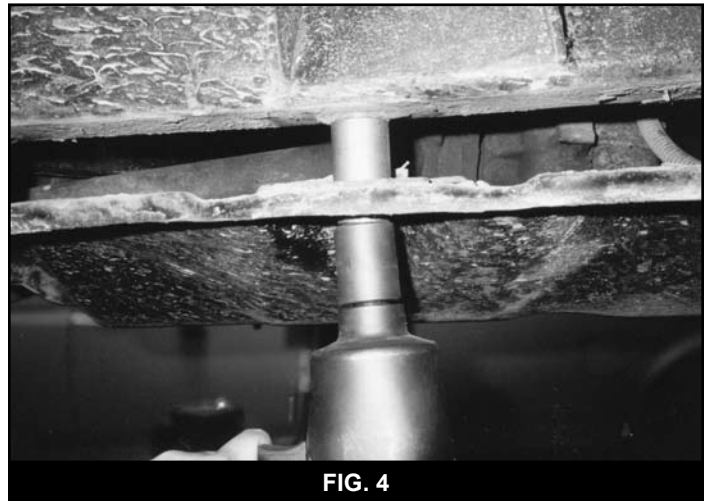

FIG. 4
16. Support transfer case skid pan. Loosen mounting bolts. Remove the 3 drivers side bolts mounting the pan to the frame. Lower the pan/transfer case assembly. Install the 1-5/8" beveled spacers with cupped end of spacer to pan between frame and pan. Retain with the beveled washers and 1/2 x 3" bolts. Leave loose and do the 3 remaining passenger spacers, bolts and convex washers. (Fig. 4)